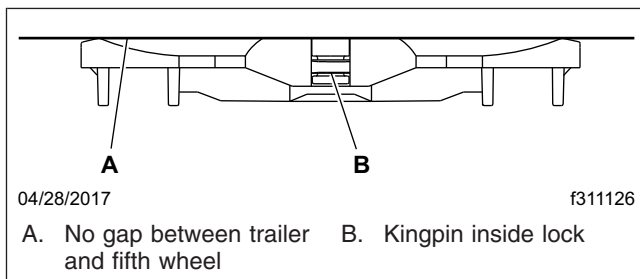

Fig. 17.6, Coupling Inspection
8. Perform a coupling inspection, checking that there is no gap between the bottom of the trailer and the fifth wheel, and that the kingpin is securely locked. See Fig. 17.6
10. Apply the tractor parking brake, then perform a physical check for positive kingpin lockup, and that there is no gap between the trailer and the fifth wheel. See Fig. 17.6.